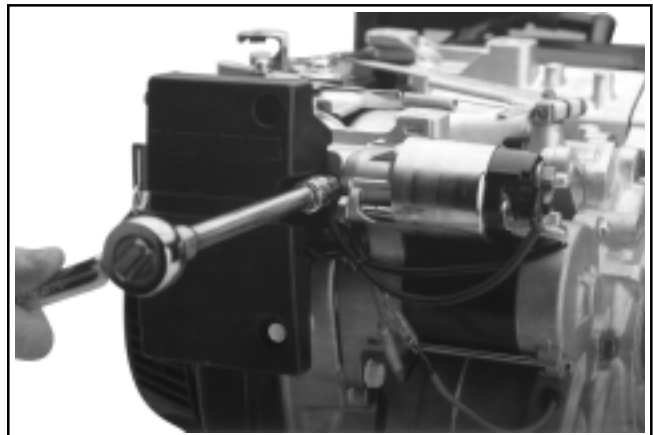

Figure 9-28. Removing Control Panel Screws on CS8.5 (spec.95xxxx).
3. On CS8.5 (spec. 95xxxx) remove the two screws securing the control panel and mounting bracket for the electrical components. See Figure 9-28.